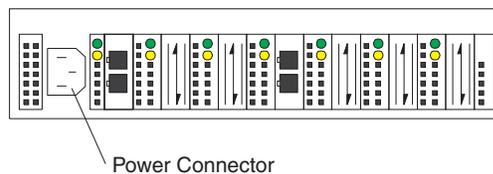

Figure 4. Type 3523 fibre channel hub power connector
1. Connect the power cord to the fibre channel hub, then to the electrical outlet. See Figure 4.